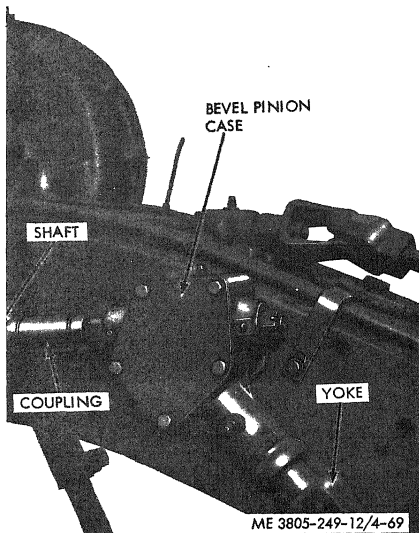

Figure 4-69. Bevel pinion case.
a. Remove the lockrings and pins and slide the coupling onto the shaft. Refer to figure 4-69.